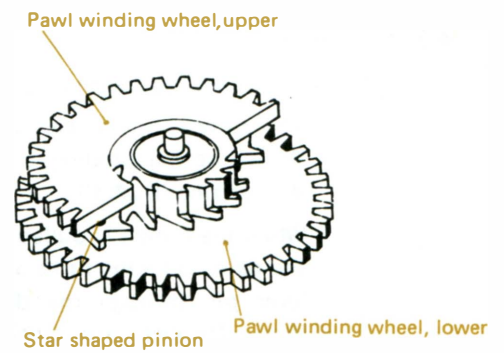

Fig. 8
As a part of date corrector finger is placed underneath date dial guard when date dial guard is matched to the positioning pins, move down the date corrector finger shown in an above figure and set date dial guard. (Fig. 8)
- (7) Oil the contact portion of date corrector finger and the guide hole of date dial guard with Synt-V-Lube. (Fig. 8)
- (8) Set date jumper spring and tighten the screw.
- The clutch wheel, similar as in Cal. No. 52\*\* and 72\*\* Leopal, performs clutch operations by means of the star shaped pinion (Fig. 8).